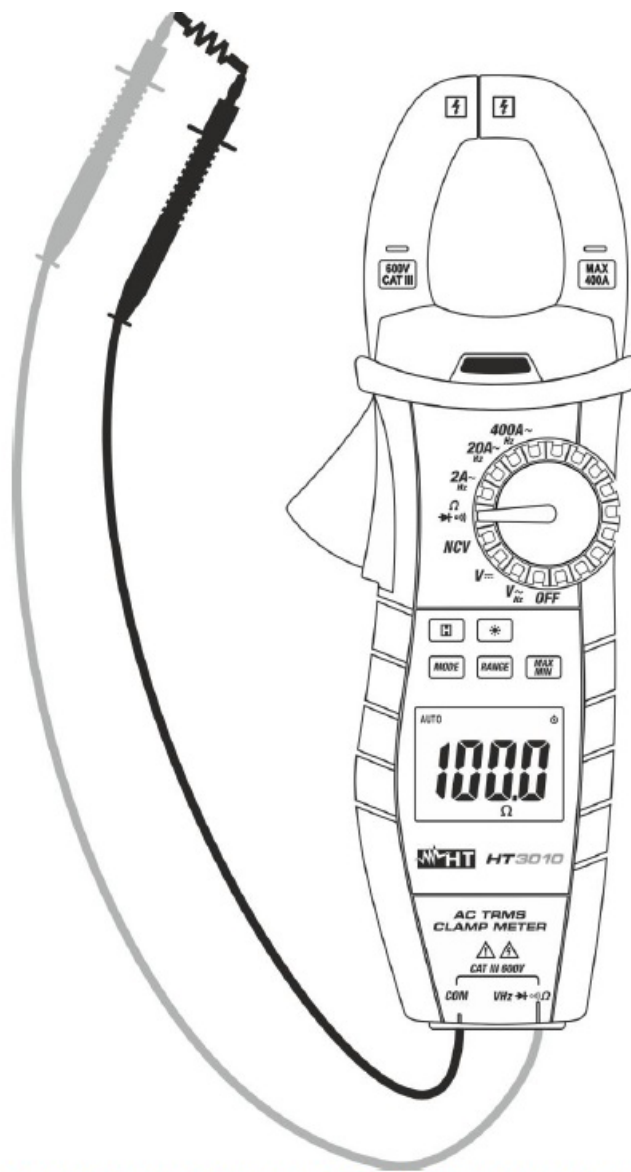

Fig. 6: Use of the instrument for Resistance measurement
3. Position the test leads in the desired points of the circuit to be measured (see Fig. 6). The display shows the value of resistance.